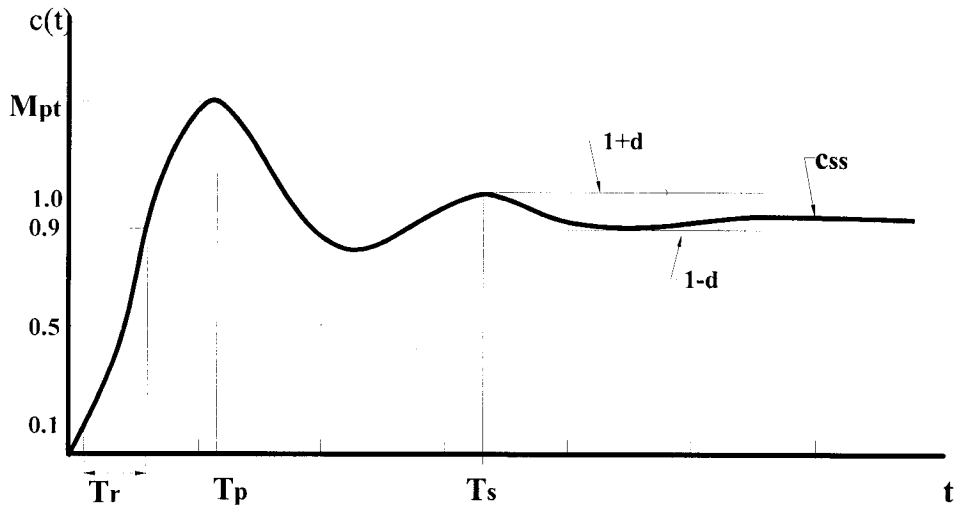

Fig Q7
7. Explain all parameters as shown in Fig. Q7:-